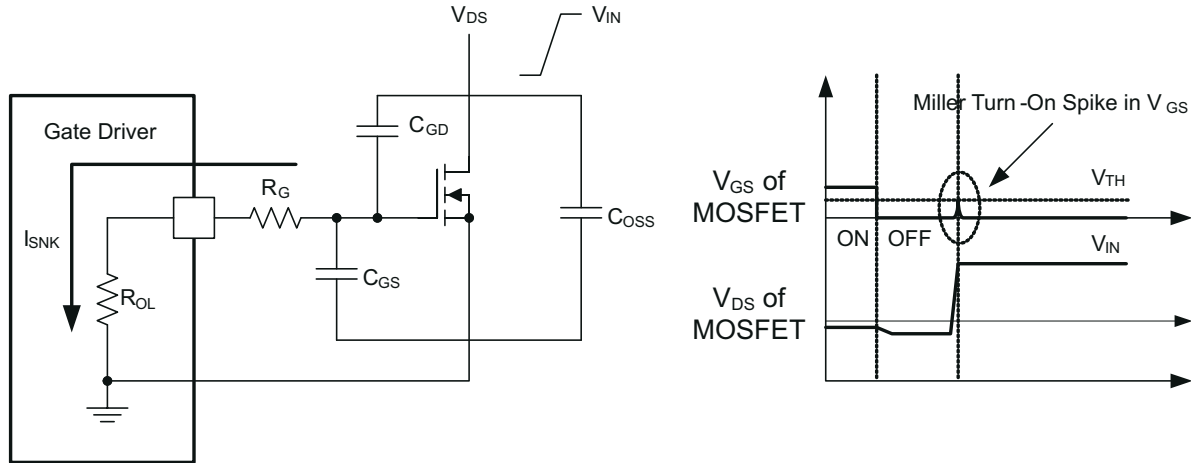

图 7-3. Low Pull-Down Impedance in UCC27614 (Output Stage Mitigates Miller Turnon Effect)
An example of a situation where Miller turnon is a concern is synchronous rectification (SR). In SR application, the dV/dt occurs on MOSFET drain when the MOSFET is already held in OFF state by the gate driver. The current charging the C_{GD} Miller capacitance during this high dV/dt is shunted by the pulldown stage of the driver. If the pulldown impedance is not low enough then a voltage spike can result in the V_{GS} of the MOSFET, which can result in spurious turnon. This phenomenon is illustrated in Figure 7-3.